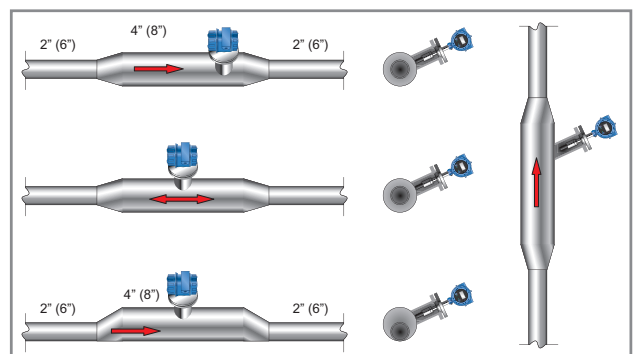

Figure 3. Expanding pipe section examples to meet velocity guidelines (side view)
- If this technique is used, the piping must maintain 20 inches (500mm) of upstream straight run (both sides for bidirectional flow applications) to avoid jet effect and a resulting 'spray' on the fork tines. (Figure 3)